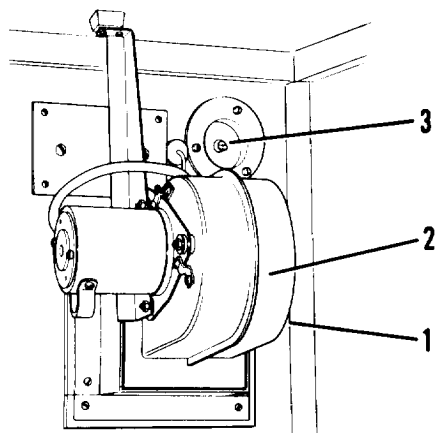

Figure 2-29. Vent fan
- (1) Open vent lever (1, figure 2-29) on right side of vent fan (2).
- (2) Turn vent fan switch (3) to ON position.